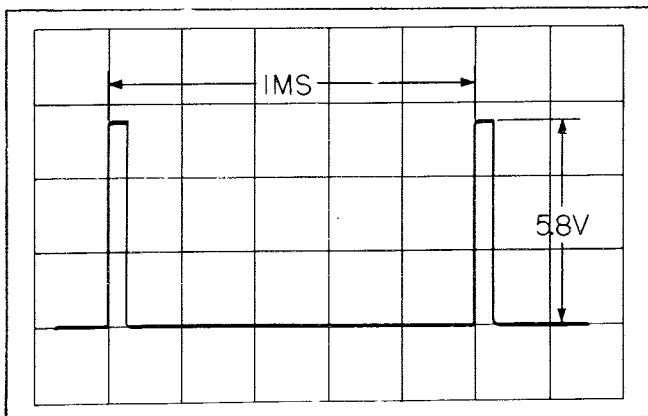

Figure 6.21 - Q19, Emitter Waveform
o. Reconnect oscilloscope to emitter of keyed oscillator Q19 (or left end of R57). The observed 1 KC waveform should resemble the one shown in figure 6.21.